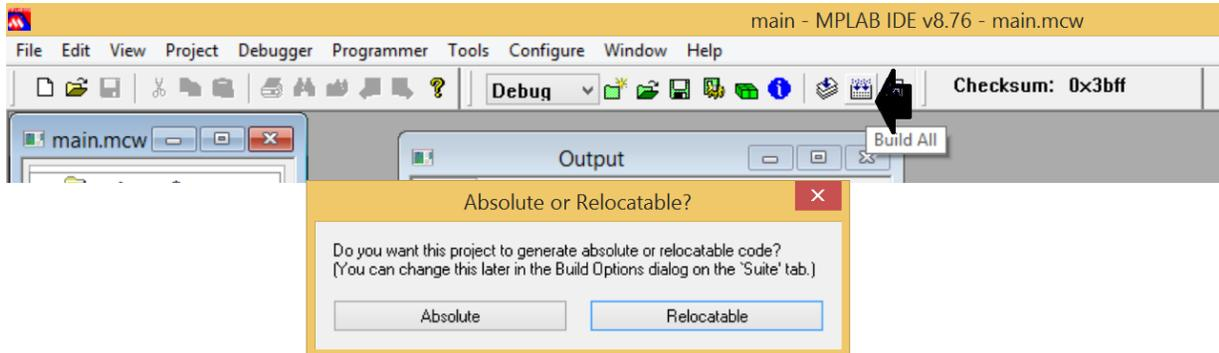

Figure-13
13) Assembly file is added to the project. Next step is to build it in order to see whether there are errors or not. In the menu, press **"build all"** like shown in the **Figure-13**. Then in the next window press **"Absolute"**.